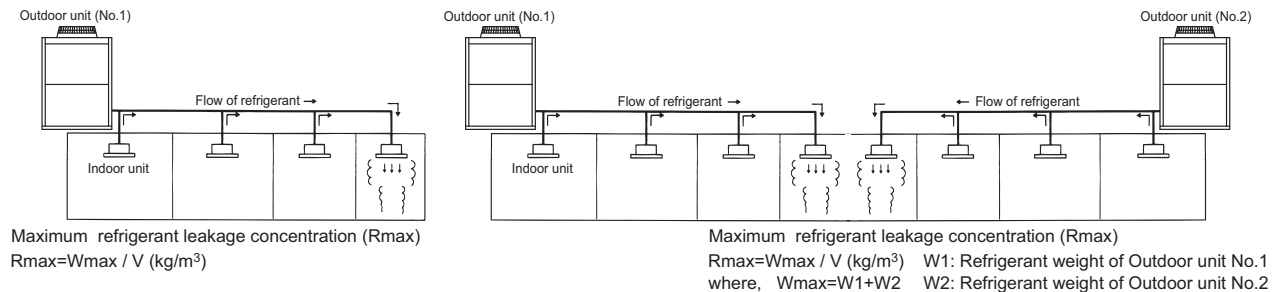

Fig. 5-1 The maximum refrigerant leakage concentration
The maximum refrigerant leakage concentration (Rmax) is defined as the result of the possible maximum refrigerant weight (Wmax) leaked into a room divided by its room capacity (V). It is referable to Fig.5-1. The refrigerant of Outdoor unit here includes its original charge and additional charge at the site.